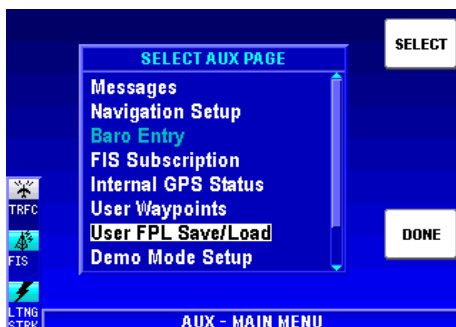

Figure 1-187
2. Press the **AUX MENU** Softkey to display Figure 1-187. Use the Joystick to highlight **User FPL Save/Load** as shown.